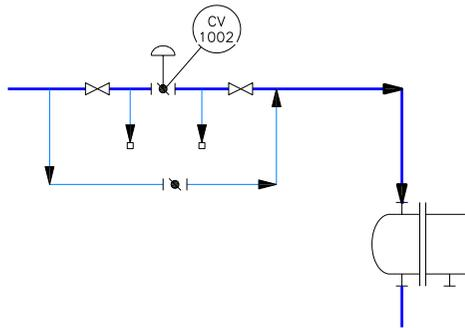

Figure 2-59 Secondary lines with plugs placed at their endpoints
- Next, create two secondary lines connecting the steam inlet pipe, as shown in Figure 2-59.
- Choose **Plug** from the **Piping Fittings** area in the **Fittings** tab of the **TOOL PALETTES - P&ID PIP**, and then place it at the endpoints of the secondary lines, refer to Figure 2-59.